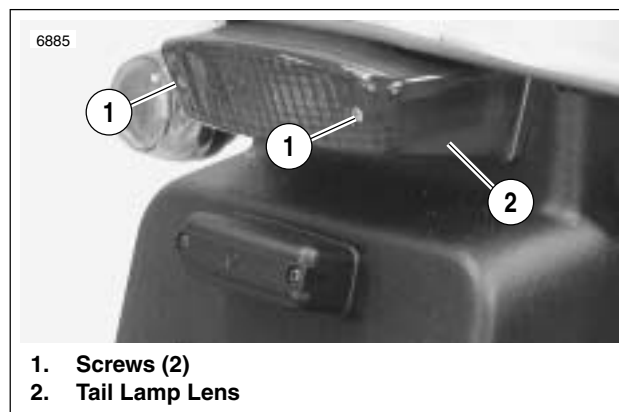

Figure 7-40. Turn Signal Lens
- a. See Figure 7-40. Remove two screws (1) to detach tail lamp lens (2).